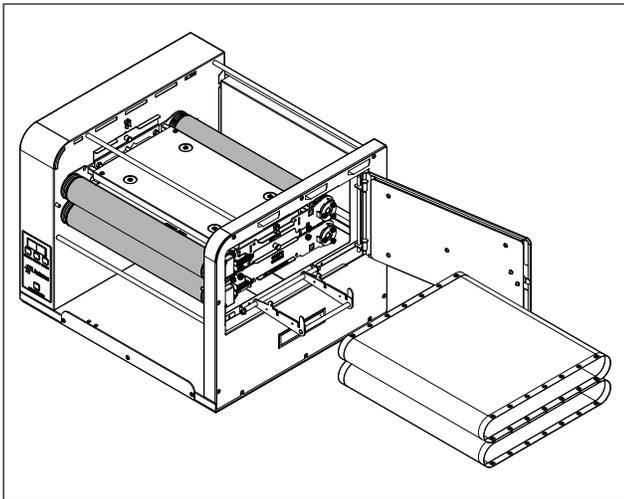

Figure 4.
11. Slide the Belt(s) to be replaced out of the unit and discard (Figure 4).
12. With belt(s) removed, wipe all exposed rollers and the top and bottom heater cover plates with a clean sanitized towel to remove any debris (Figure 4).
Slide the new bottom belt over the bottom rollers (Figure 4).
Slide the new top belt over the top rollers (Figure 4). and allow to air dry.